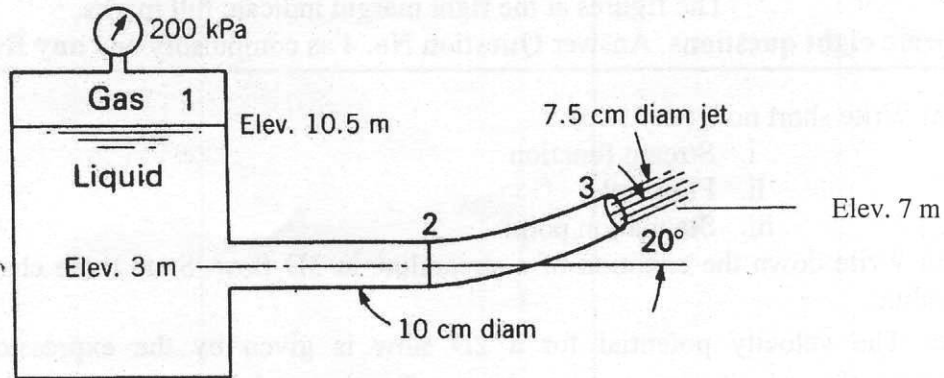

Figure 3
(b) A curved pipe section of length 10 m that is attached to the straight pipe section as shown in figure 3. Determine the resultant force on the curved pipe, and find the horizontal component of the jet reaction. All significant data are given in the figure. Assume an ideal fluid with  $\gamma = 8.80 \text{ kN/m}^3$ . (16)